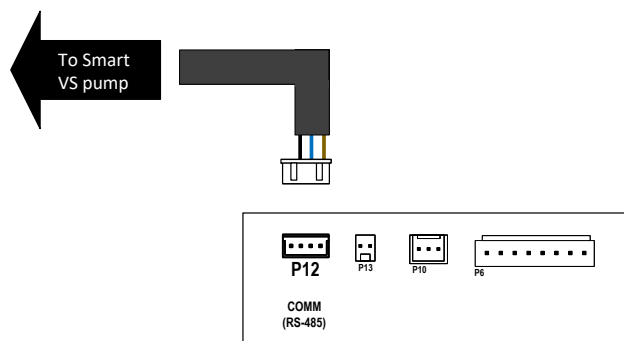

Figure 142. Wiring 24VAC Relays
3. Then connect the other end of the RS-485 Modbus harness to the terminal labeled as "COM" [P12] on the control board. See Figure 142.